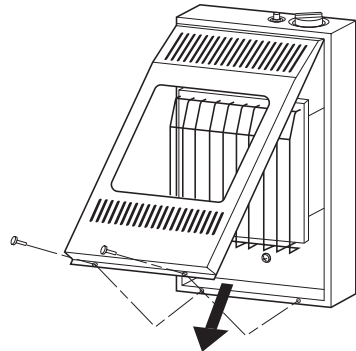

Figure 10 - Removing Front Panel Of Heater
1. Remove two screws near bottom corners of front panel. See Figure 10.